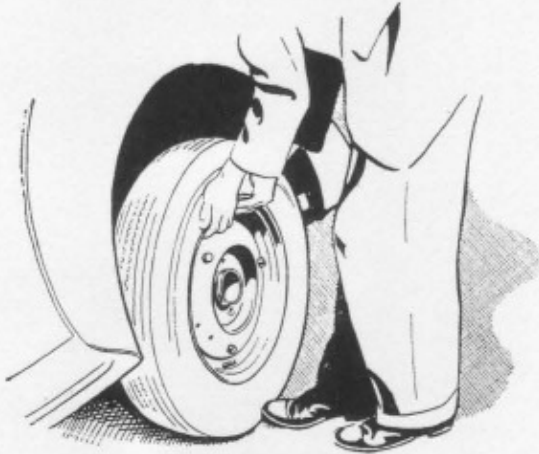

Fig. 26.—MOUNTING REAR WHEEL.
1. Roll the spare wheel under the hub, the top of the wheel being inclined outwards, then with a foot at the bottom of the wheel, lift by the rim on to the hub extension, as shown in Fig. 26.
Front.—Position the wheel on the hub extension as described for the rear wheel (1). (See Fig. 26.)